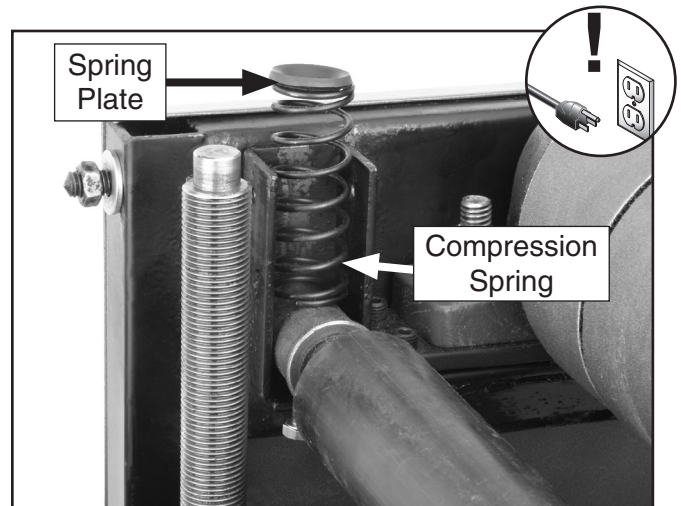

Figure 40. Front pressure roller components.
5. Remove the dust scoop (4 hex bolts and 4 flat washers), compression springs and spring plates (**Figure 40**) from the front pressure roller and set the roller aside.